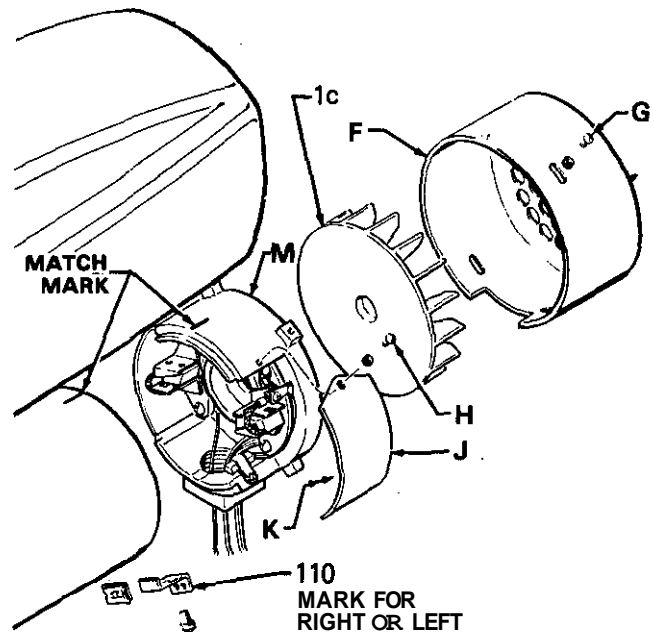

Fig 31
MOTOR CAPACITOR REPLACEMENT (See Figs 31 & 32)
2. Remove the fan cover (F) and screws (G) from the rear of the motor. The motor cover mounting brackets (110) are held in place by two lower fan cover screws. See Fig 31.
4. Remove the inspection cover (J), screws (H), and gasket (K) from each side of the motor (1). See Fig 31.
7. Make a matchmark between the front end bell (L) and the motor housing and the rear end bell (M) and the motor housing to use as alignment marks during reassembly. Also make a mark on the front of the motor housing. Refer to Fig 31.
8. Use a 11 mm (7/16") socket wrench to remove the nuts from the rear end bell (M).
10. To replace the capacitor, remove the brush lead terminal screws (Y) and the screw (Z) going into the insulation plate of the rear end bell. Install a new capacitor (X), making sure the ceramic case of the capacitor is not cracked. Maintain a 3 mm (1/8") clearance between the capacitor and any grounded metal parts. Always replace both capacitors at the same time.
11. Position the rear end bell (M) over the tie bolts and push it onto the motor housing. Align the matchmarks carefully and install the lockwashers and nuts.
14. Reconnect the motor leads in the pressure control box and reinstall the conduit (77) and push conduit seal (8) into conduit elbow, around the motor lead. Reinstall the pressure control cover and screws.